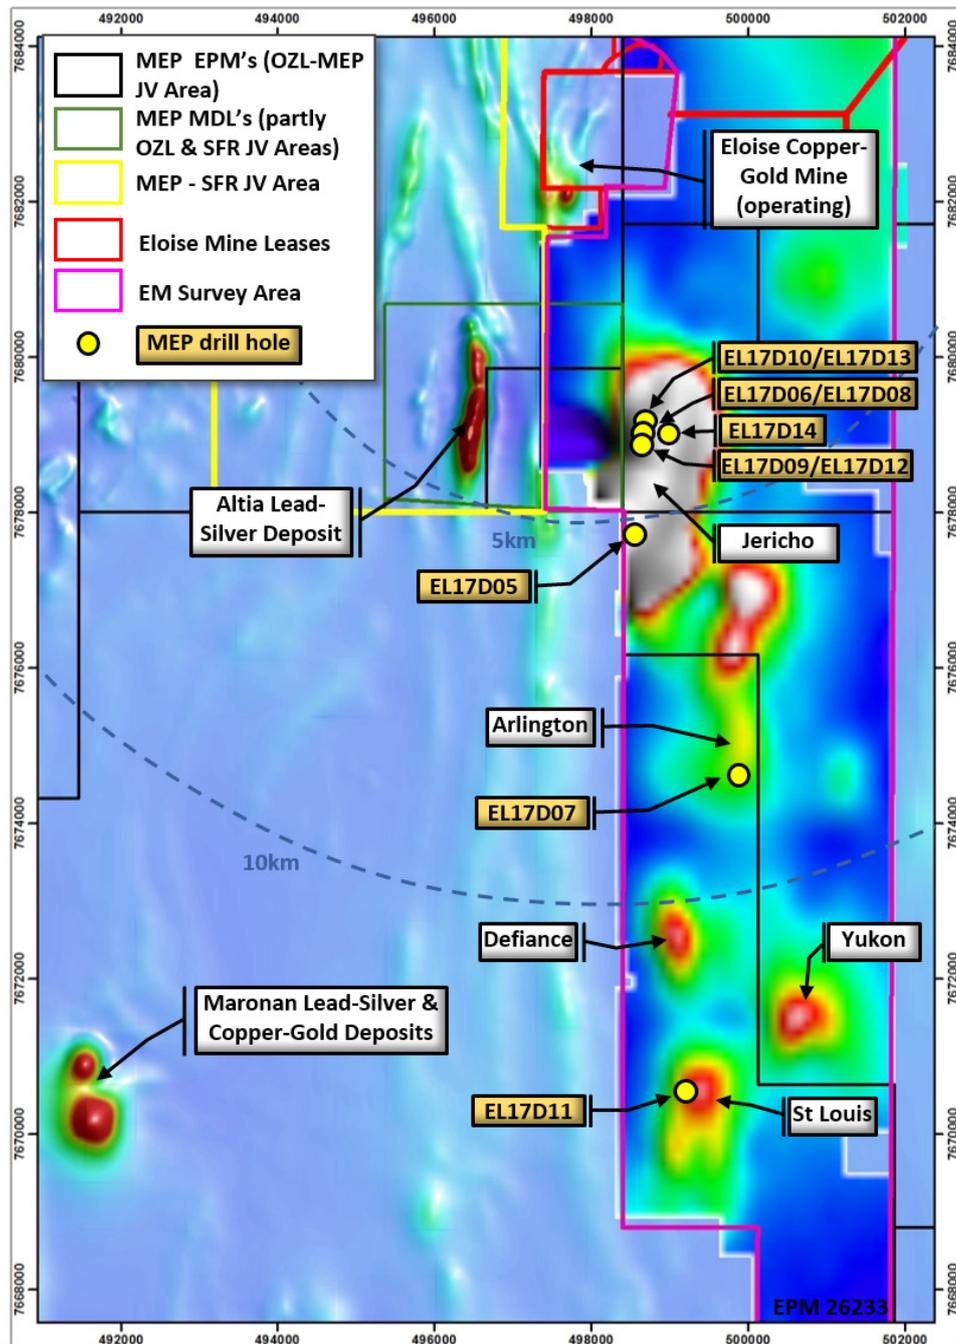

Figure 1: EM drill targets south of Eloise mine; EM image is Z component, channel 30 over magnetics with completed drill collars
Minotaur Exploration Ltd (ASX: MEP, 'Minotaur') provides a drilling update for the Eloise JV, northwest Queensland. Ten holes are complete (EL17D05-EL17D14), including eight holes at Jericho and one hole each at 'Arlington' and 'St Louis', all testing electromagnetic (EM) conductors located along the southern Levuka Shear Zone and close to the Eloise copper-gold mine (Figures 1 and 2). Drilling is now suspended due to the imminent northern Australia wet season. This first reconnaissance drill program has been highly successful locating copper-gold mineralisation, very similar in style to that developed at the nearby Eloise copper-gold deposit, associated with extensive basement EM conductors.
The Eloise JV is seeking Eloise-style copper-gold and Cannington-style silver-lead-zinc mineralisation, with both styles evident in the well-endowed mineral camp around the Eloise, Altia and Maronan deposits (refer to Figure 1).